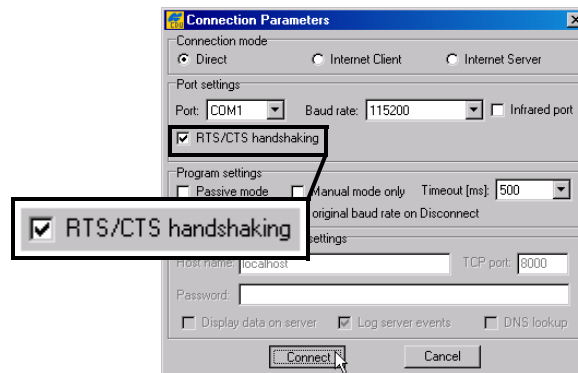

Figure 2-15. Connection Parameters – MINTER Settings
2. On the *Connection Parameters* dialog box, enable RTS/CTS handshaking (Figure 2-15).